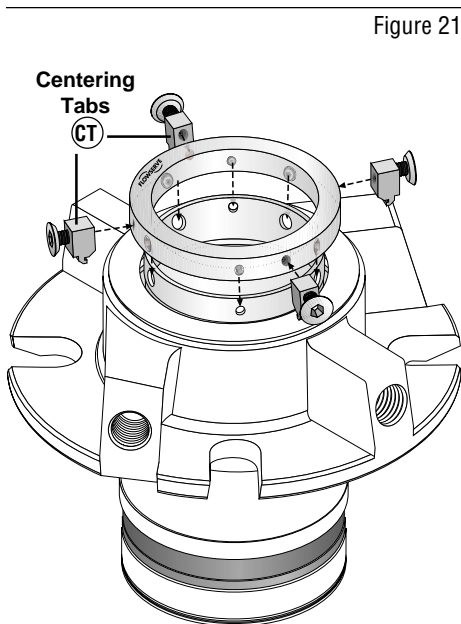

Figure 21
4.19 Place the sleeve collar ⑨ onto the end of the sleeve with the “Flowserve” logo facing up. Align the quarter dog set screws with the smaller holes in the end of the sleeve. (Figure 21) On smaller seal sizes, one of the quarter dog set screws will be offset by 15 degrees. Align this quarter dog set screw with the corresponding offset hole in the end of the sleeve. Do not tighten any set screws at this time. Install the centering tabs ⑩ and flat head cap screws into the collar while engaged with the gland. Be sure to keep the collar aligned and be careful not to rotate the gland.